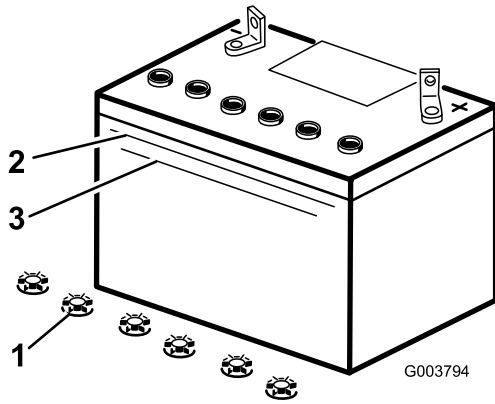

Figure 34
Note: The electrolyte must be up to the Upper line (Figure 34). Do not allow the electrolyte to fall below the Lower line (Figure 34).
- Remove the filler caps from the battery (Figure 34).
- Slowly pour distilled water into each battery cell until the electrolyte level is up to the Upper line (Figure 34) on the battery case.
Note: Add distilled water, if necessary, until the electrolyte level is up to the Upper line (Figure 34) on the battery case.